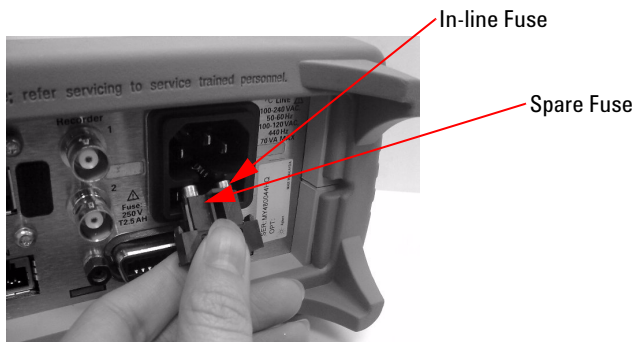

Figure 8-3 Replacing the fuse
- 1 Slide the fuse holder assembly from the rear panel as shown in Figure 8-3.
- 2 Install the correct fuse in the “In line” position as shown in Figure 8-3. (A spare fuse can be stored in the fuse holder assembly.)